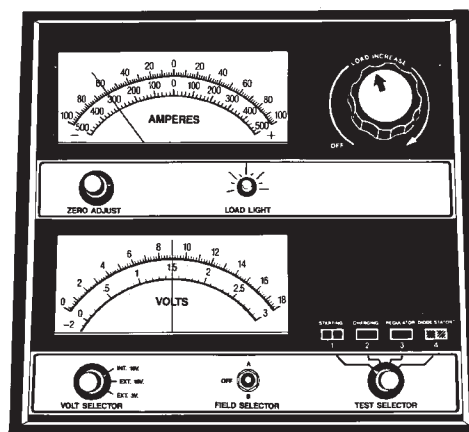
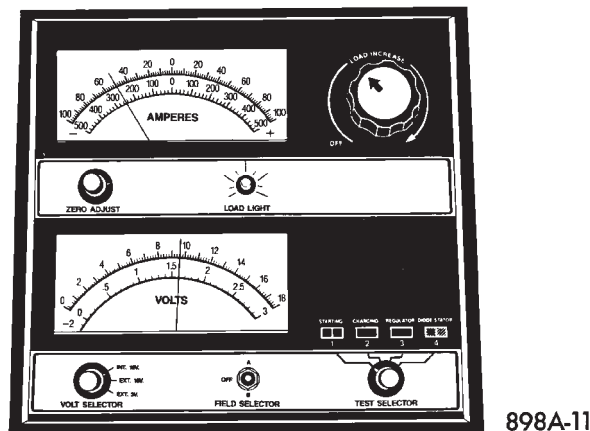

Fig. 8 Remove Surface Charge from Battery - Typical
Fig. 9 Load 50% CCA Rating - Note Voltage - Typical
(3) Rotate the load control knob (carbon pile rheostat) to apply a 300 ampere load to the battery for fifteen seconds, then return the control knob to the Off position (Fig. 8). This will remove the surface charge from the battery.
(4) Allow the battery to stabilize to open-circuit voltage. It may take up to five minutes for the battery voltage to stabilize.
(5) Rotate the load control knob to maintain a load equal to 50% of the CCA rating of the battery (Fig. 9). After fifteen seconds, record the loaded voltage